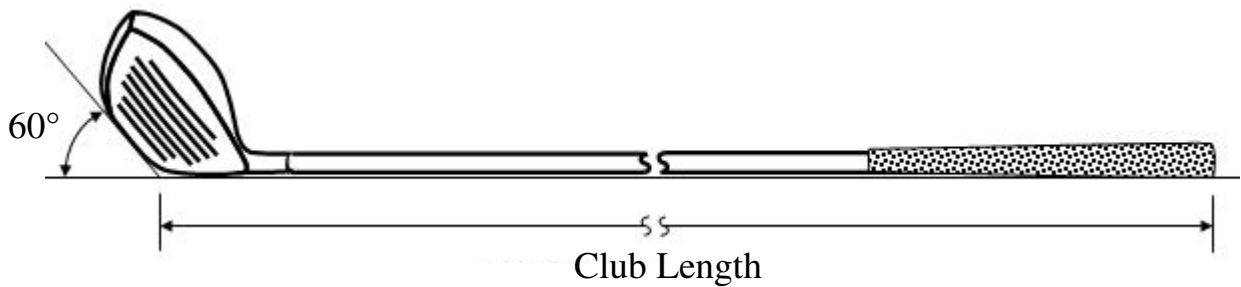

Figure 5.0.1– Convention for Club Length Measurement
5.0.1 The measurement of length is made with the club set on a horizontal plane while the sole is set against a 60 degree plane, Figure 5.0.1. The length is defined as the distance from the point of the intersection between the two planes to the end of the grip.